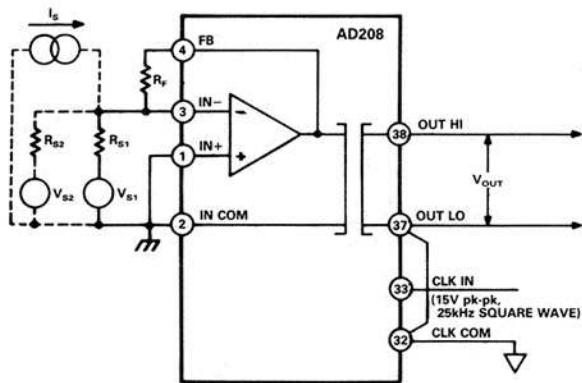

Figure 32. Summing or Current Input Configuration
**Summing or Current Input Configuration.** Figure 32 shows how the AD208 can accommodate current inputs or sum currents or voltages.
The circuit of Figure 32 can also be used when the input signal is larger than the  $\pm 5$  V input range of the isolator. For example, suppose that in Figure 32 only  $V_{S1}$ ,  $R_{S1}$  and  $R_F$  are connected to the feedback, input and common terminals as shown by the solid lines in Figure 32. Now, a  $V_{S1}$  with a  $\pm 50$  V span can be accommodated with  $R_F=20$  k $\Omega$  and  $R_{S1} = 200$  k $\Omega$ .